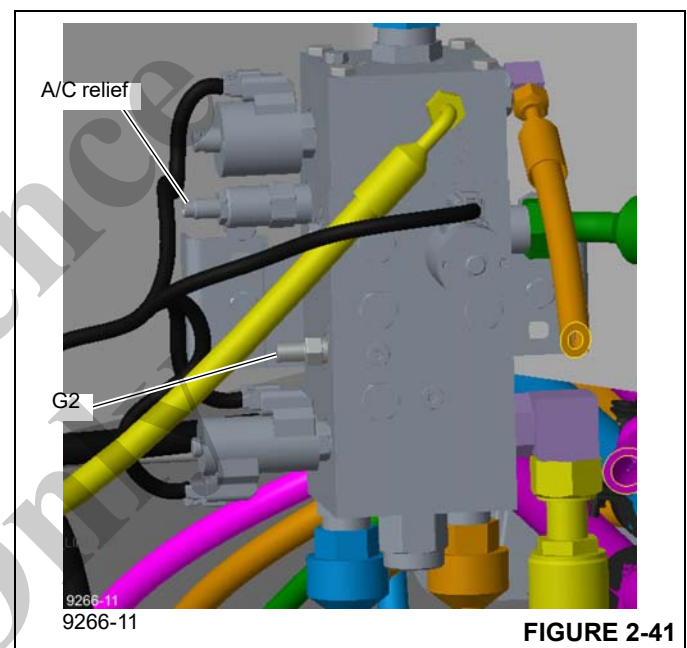

FIGURE 2-41
1. With the engine off, install a pressure check diagnostic coupler (Parker PD240) with gauge onto the diagnostic nipple at the G2 port of the outrigger selector/ A/C manifold (see Figure 2-41).